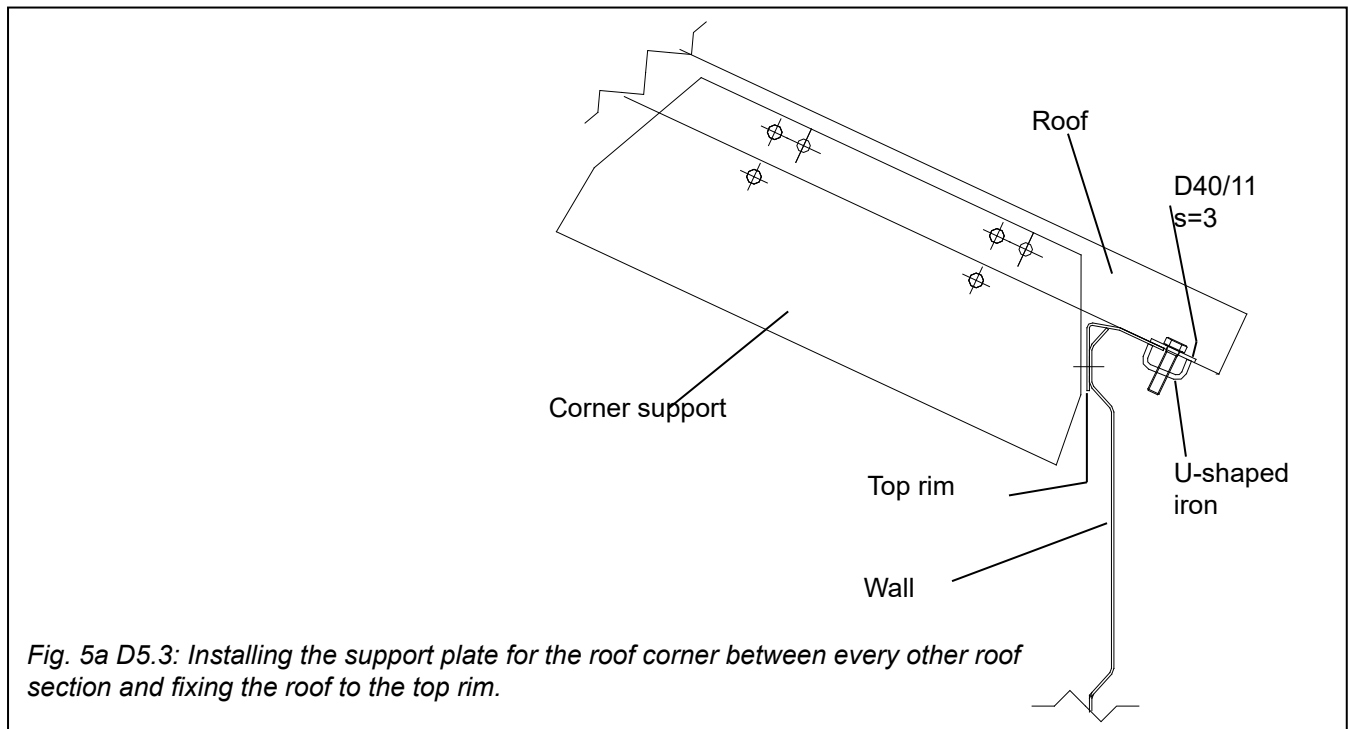

Fig. 5a D5.3: Installing the support plate for the roof corner between every other roof section and fixing the roof to the top rim.
Place the support plates for the roof corners (item 33357) between the roof sections, in the second and third hole counted from the outer edge of the roof (Fig. 5a and 5b). Only the D7.5 m silo has double holes for attaching the part.